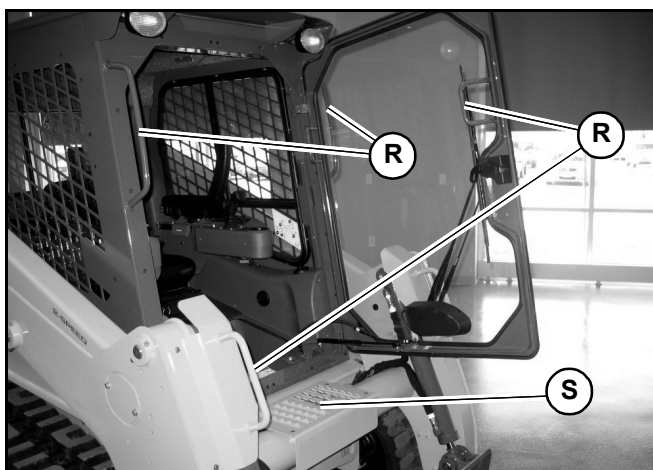

Fig. 35 – Cab Entry/Exit Handles/Steps
Use only step (S, Fig 35) and handles (R) on the machine when entering/exiting the cab.